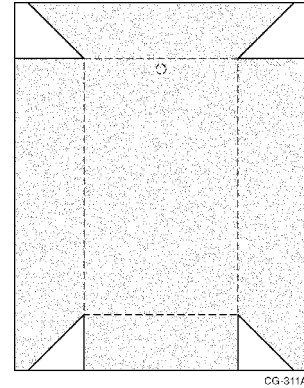

Figure 1 Cutting Diagram for Pump Skirt
6. To reduce bulk so that the film wraps neatly around the pump skirt, you need to cut away some film. In this example, you would cut the film on solid lines and remove the white sections. See Figure 1.